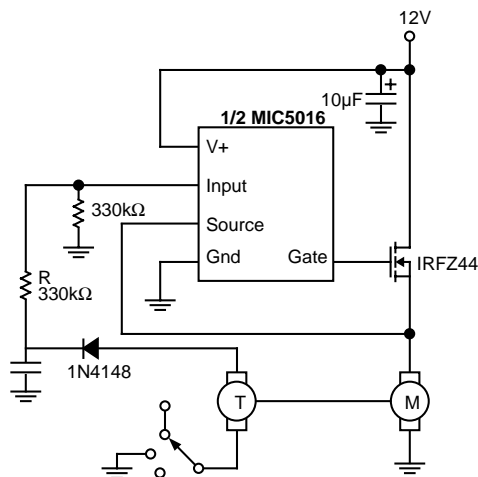

Figure 10. Motor Stall Shutdown
**Motor Driver With Stall Shutdown** (Figure 10) Tachometer feedback can be used to shut down a motor driver circuit when a stall condition occurs. The control switch is a 3-way type; the “START” position is momentary and forces the driver ON. When released, the switch returns to the “RUN” position, and the tachometer’s output is used to hold the MIC5016 input ON. If the motor slows down, the tach output is reduced, and the MIC5016 switches OFF. Resistor “R” sets the shutdown threshold.